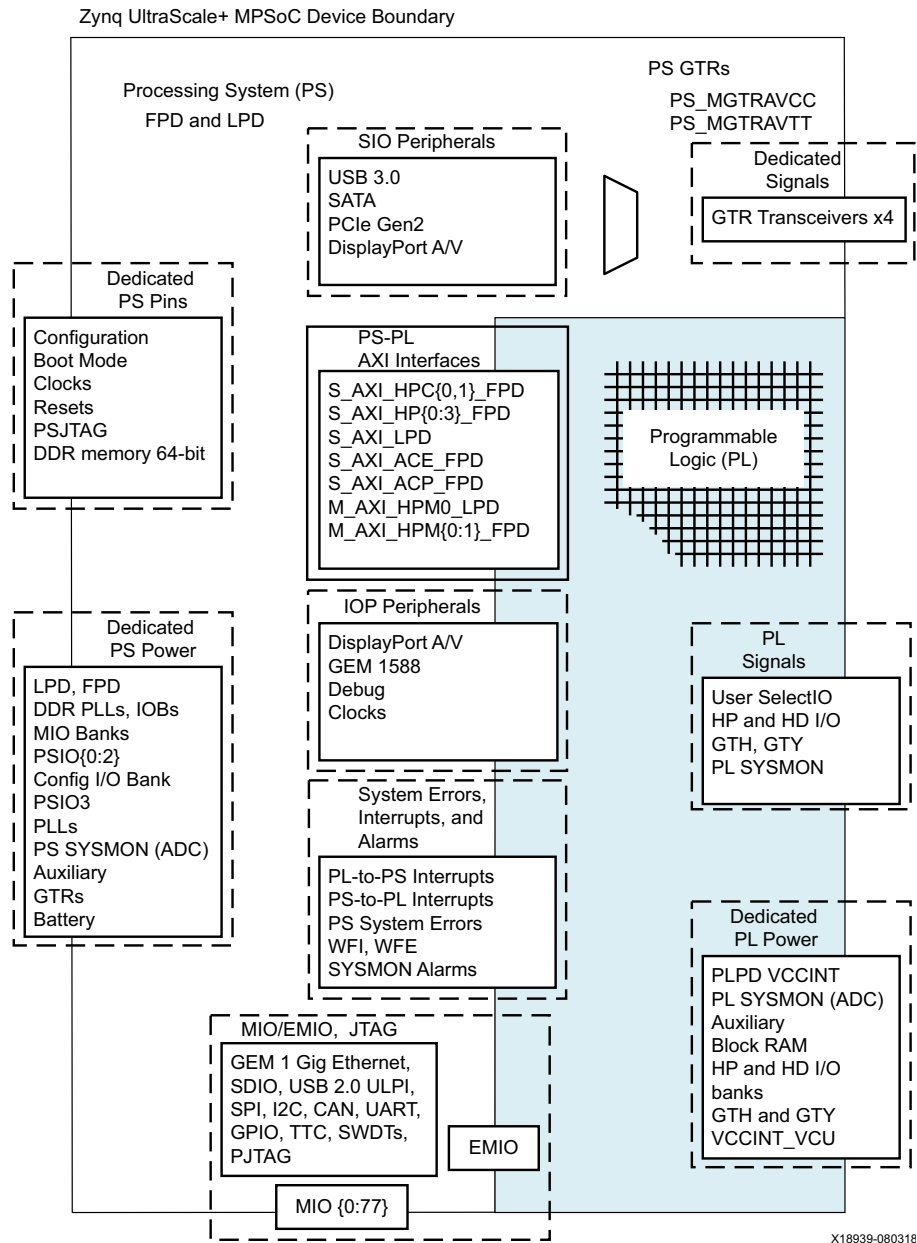

Figure 2-1: PS Pins and Interfaces Diagram
The dedicated device pins and the major signals and interfaces that cross between Programmable Logic (PL) and Processing System (PS) power domains are listed in this chapter. Figure 2-1 shows the dedicated device pins, and the signals and interfaces between power domains.